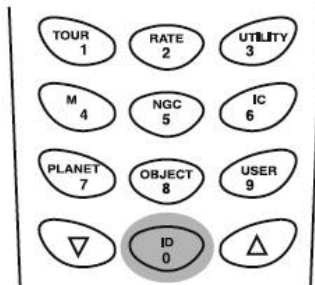

Fig. 46
2. Press the **ID** key, as pictured in **Fig. 46**.